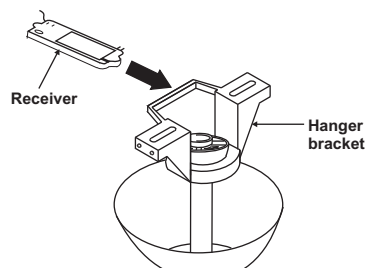

Figure 10
Step 1. (Fig. 10) Insert the receiver into the mounting bracket with the flat side of the receiver facing the ceiling.